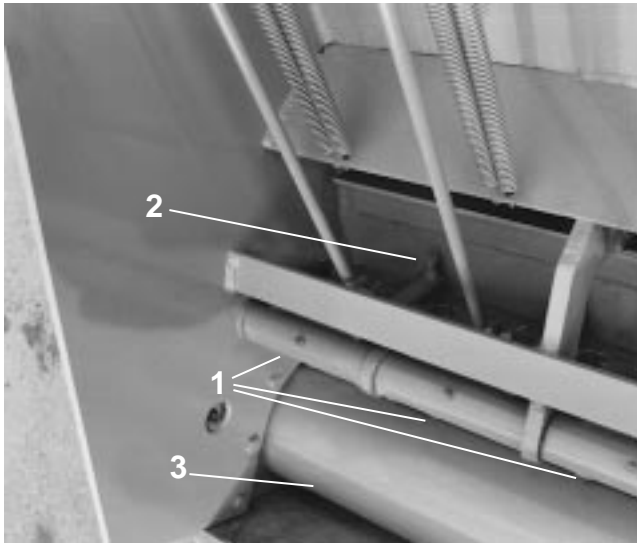

Figure 18. Hopper Gates
2. With hopper removed from the spreader or the reach rod disconnected, each gate adjustment screw should be set so as to maintain 1/16" clearance between the gate wear plate and spread roll. (Fig. 18)